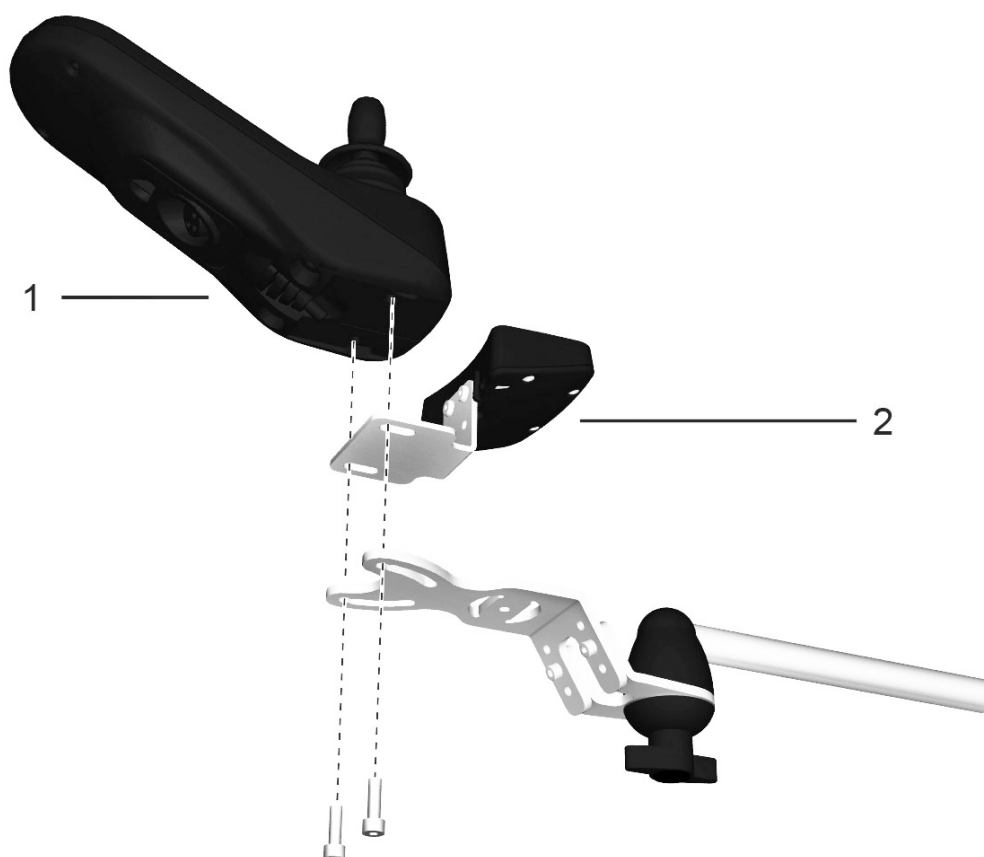

Figure 155. The control panel is held in place with two screws.
4. Remove the control panel (1). It is held in place with two screws. These two screws also hold the bracket for the ICS control panel (2), if there is one fitted. See fig. 155.